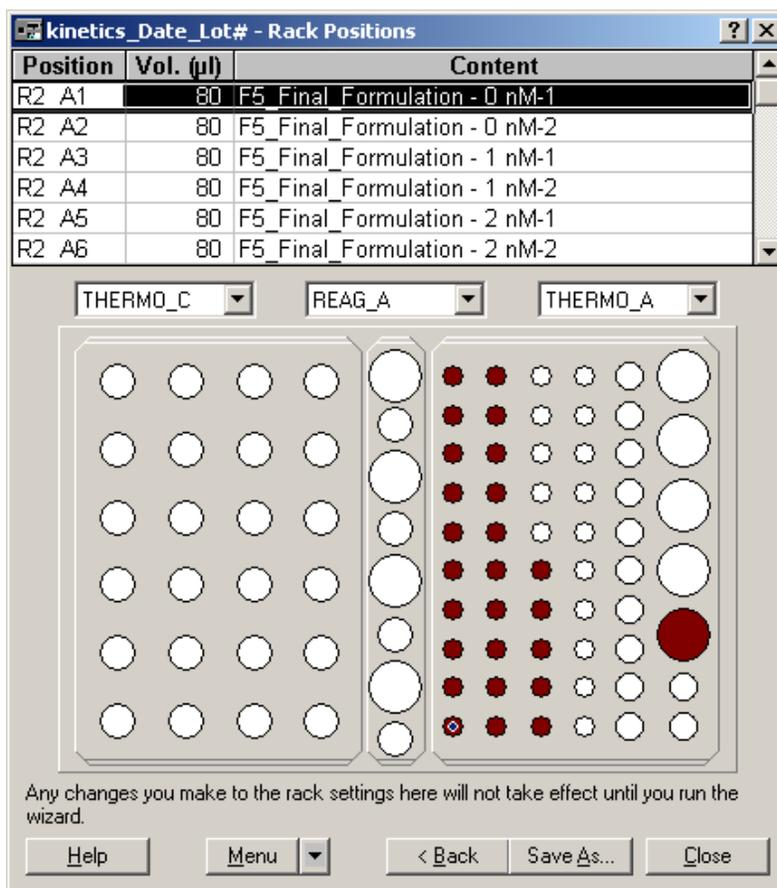

Figure 5.4 (Note: The sample name and concentration should be consistent with the experiment that will be performed)
5.8 Rack positions window (Figure 5.4) will open.
- 5.10 Place 80 µL of each sample (duplicates of each concentration is kept in separate vials) in 7 mm polypropylene vials displayed in figure 5.4.
- 5.11 Also place appropriate amount of regeneration buffer (e.g., 2M MgCl₂) in a 16 mm glass vial in the rack position displayed in fig. 5.4.